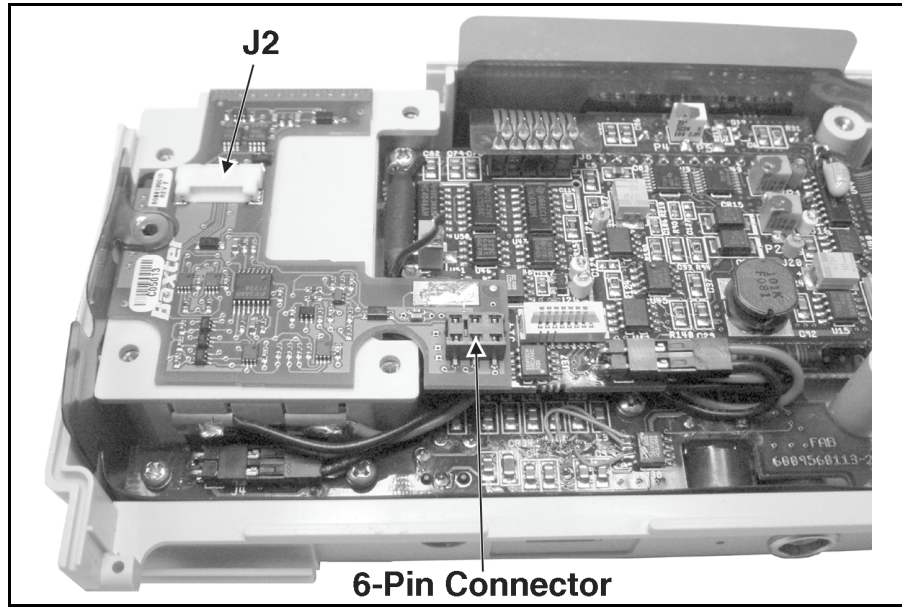

Figure 6-25. DDMM PCBA Installation
1. Refer to Figure 6-25. Place the Battery Wall (p/n B069120008RP) on top of the Battery Compartment, ensuring it is positioned under the ESD Flex Circuit Tab.